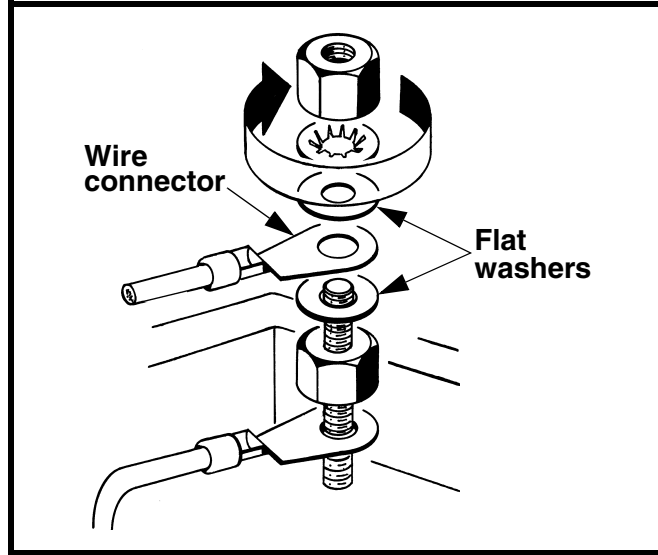

Figure 8. Installing Wire Connector
4. Install wire connector between the two flat washers. See Figure 8.